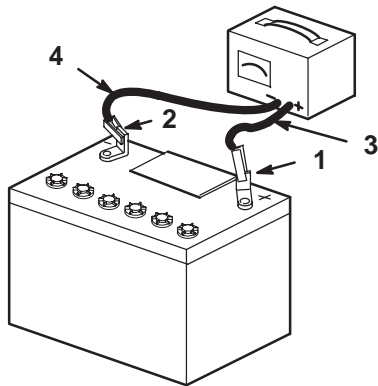

Figure 8
8. When the battery is fully charged, unplug the charger from the electrical outlet, then disconnect the charger leads from the battery posts (Fig. 8).